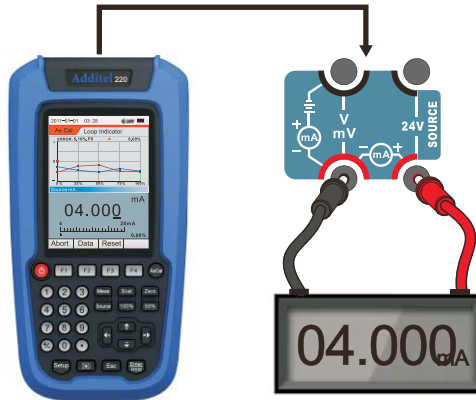

Figure 9.29 Loop calibration
3. Connect the test line well as shown in Figure 9.29, the calibrator output 4mA, manual fine-tuning the output calibrator signal to loop indicator shows the first calibration point (calibration point of 0%, 4mA).